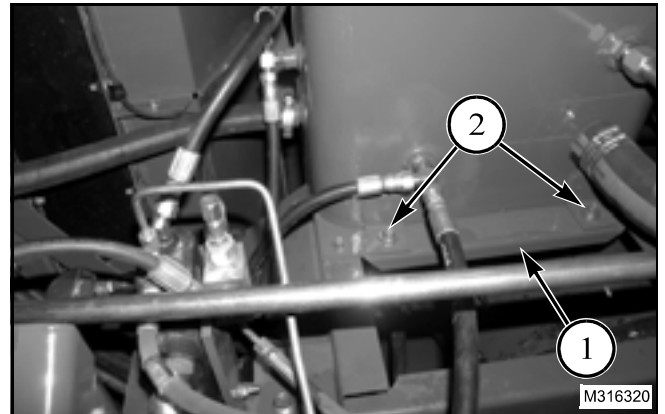

FIG. 14
FIGS. 14–15: Place the hydraulic reservoir onto the reservoir plate (1). Install the two front full thread hex flange screw (2) with a hardened wide plain washer against the head of the screw. Install two hex lock nuts to secure the hydraulic reservoir.